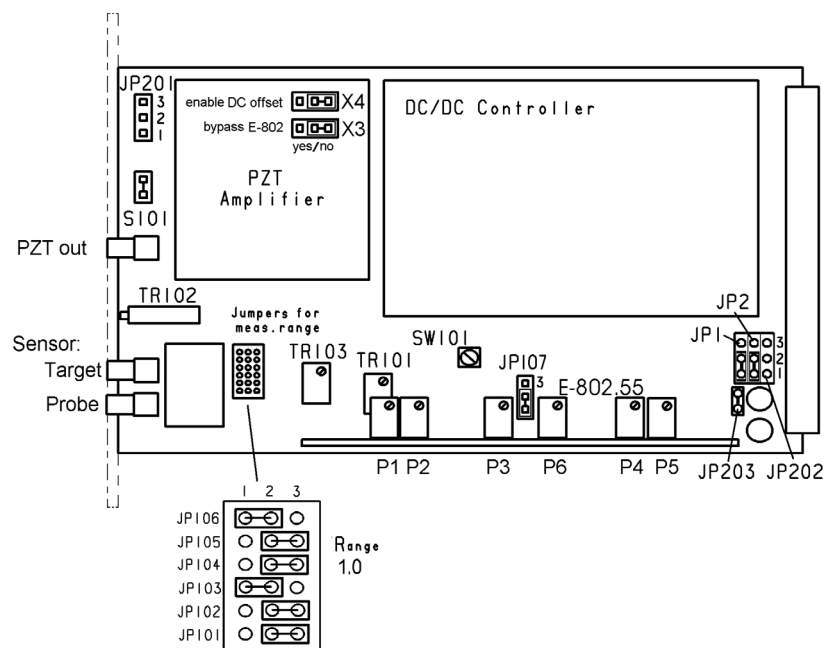

Fig. 4: E-610.CO component layout, "top" view (through cover plate)
- 7 Scan the control input voltage from 0 V to +10 V and read the PZT displacement using the external gauge. With +10 V the external gauge should show the PZT at about nominal expansion. Adjust with the sensor gain trim potentiometer TR101 (see Fig. 4). Sensor gain is now close enough to allow switching servo ON.
The jumper group is shown as arranged on the main board (see component map, Fig. 4). Units are delivered set as required for the attached stage. With no information on the stage, PI sets units to 1.0.
Servo-control is implemented in a plug-in submodule, the E-802. It should not be necessary to remove or replace the submodule, but if you ever do so, note the submodule component side direction, as shown in Fig. 4.